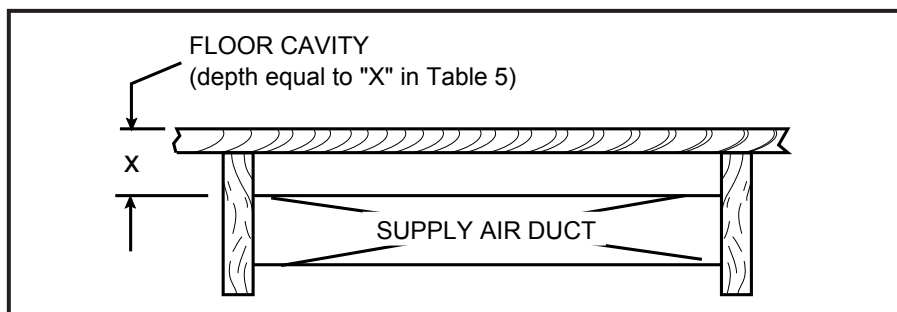

Figure 3. Floor Cavity
- Determine depth of floor cavity from surface of floor to top of supply air duct (See Figure 3).